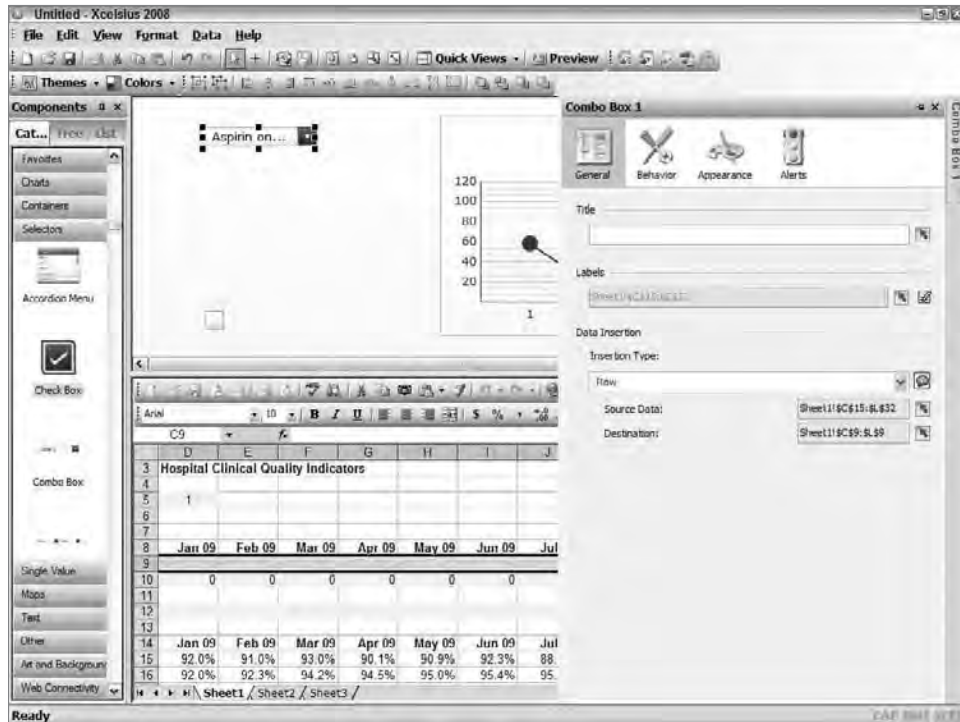

Figure 26.19: All chart components use a property box to change their actions, behaviors, and appearance.
6. Now you will show the combo box where the menu items are located in the worksheet. With the Combo Box selected, click the Combo Box 1 Property tab on the right side of the screen. Clicking on this tab will display properties for the Combo Box, such as appearance and worksheet references. Click the General tab. The screen should look similar to Figure 26.19. Click the Excel indicator to the right of the Labels box (labels are the values that
9. Specify where Xcelsius should make a copy of the data that matches your selection from the menu. Select C9:L9 in the Destination. The Combo List property box should now look like that shown in Figure 26.19.